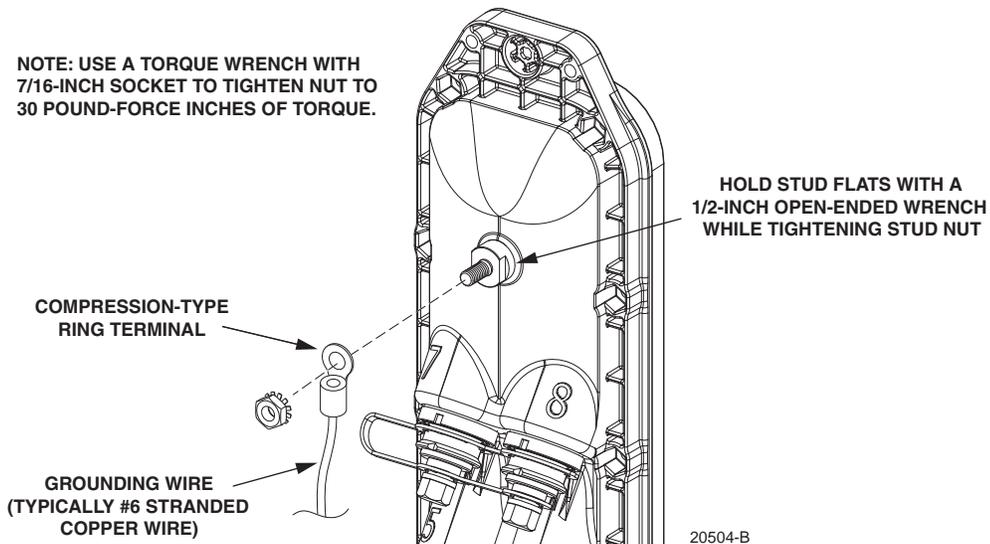

Figure 17. Grounding Lug Connection
4. Assemble the nut and grounding wire on the grounding stud as shown in Figure 17.